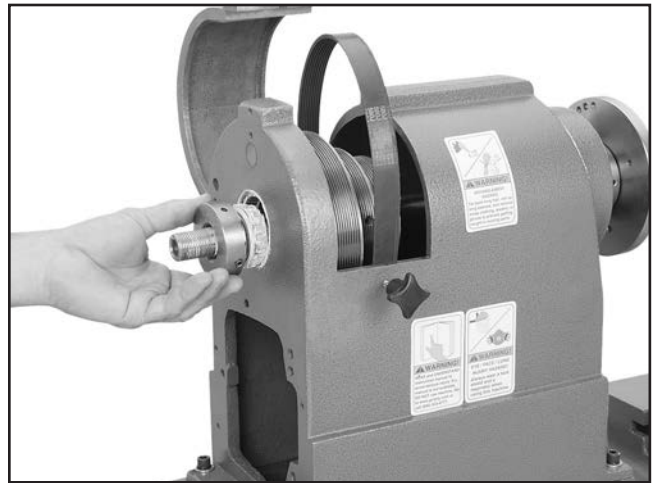

Figure 65. Outboard bearing and spanner nut reinstalled.
17. Thread the spanner nut (see **Figure 65**) onto the outboard spindle until it contacts the outboard bearing.